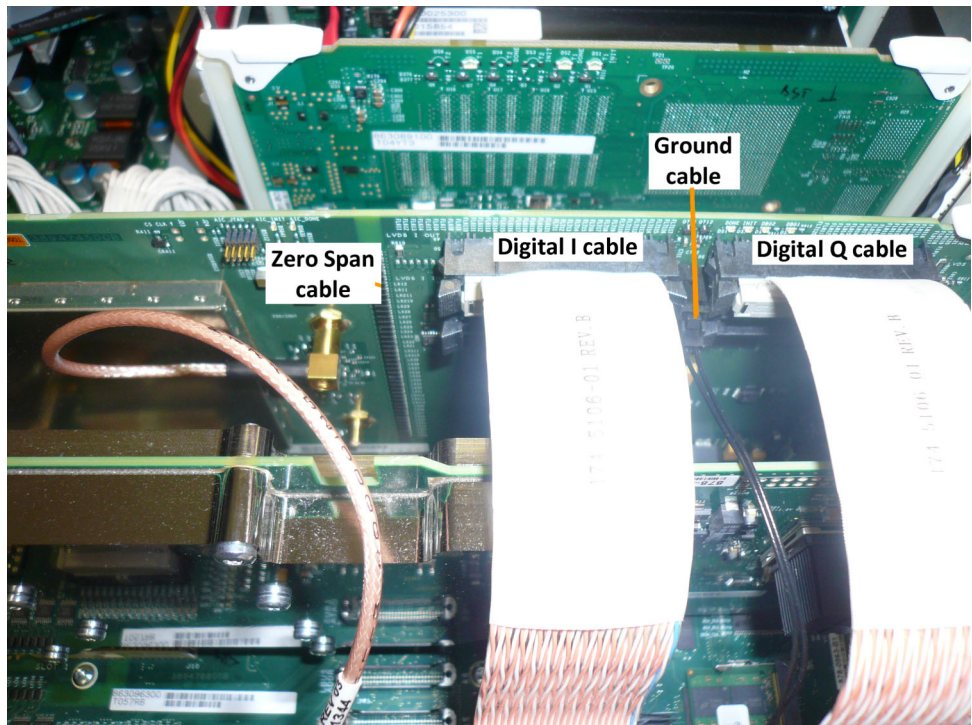

Figure 2: Disconnect Option 65, 66, 6566 cables
4. If Options 65, 66, or 6566 is installed, reconnect the cabling from this option board, in Slot 3. (See Figure 2.)